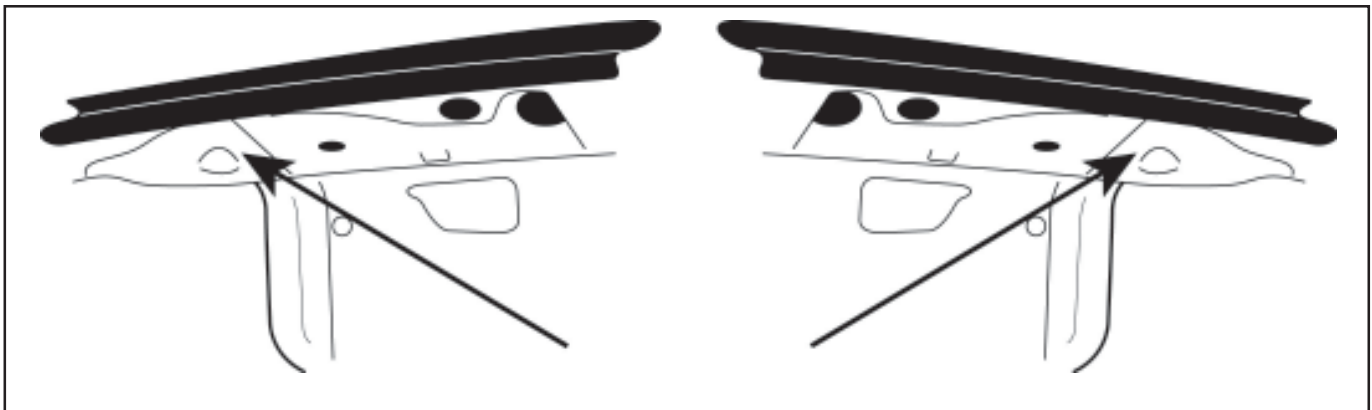

Fig. 1
2. Locate the two mounting location as indicated by the arrows. (Fig. 1)